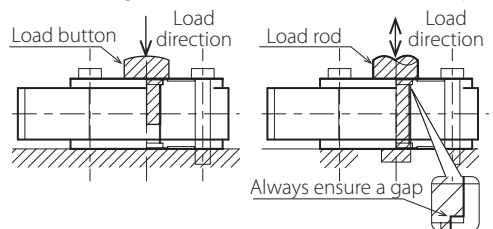

Figure 1. Compression
- Refer to Figure 1 for use with only compression loads. Refer to Figure 2 for use with tension/compression loads.